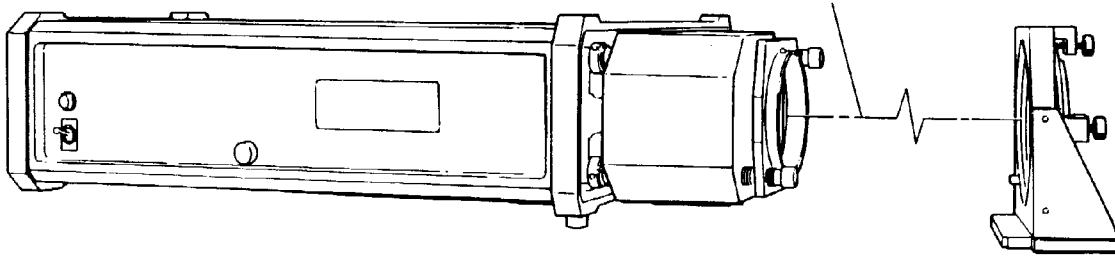

Figure 5-6 Positioning the Two-Axis Mount
3. Turn the two tip and tilt knobs (Figure 5-6) on the mount until the second spot is superimposed on the first bright spot. When the two spots are perfectly superimposed, they disappear from the monitor. This is normal.
2. Place a plano reflector (either a reference flat or transmission flat) mounted on a two-axis mount in the laser beam path. Position the mount approximately 18-inches from the mainframe. Refer to Figure 5-6.